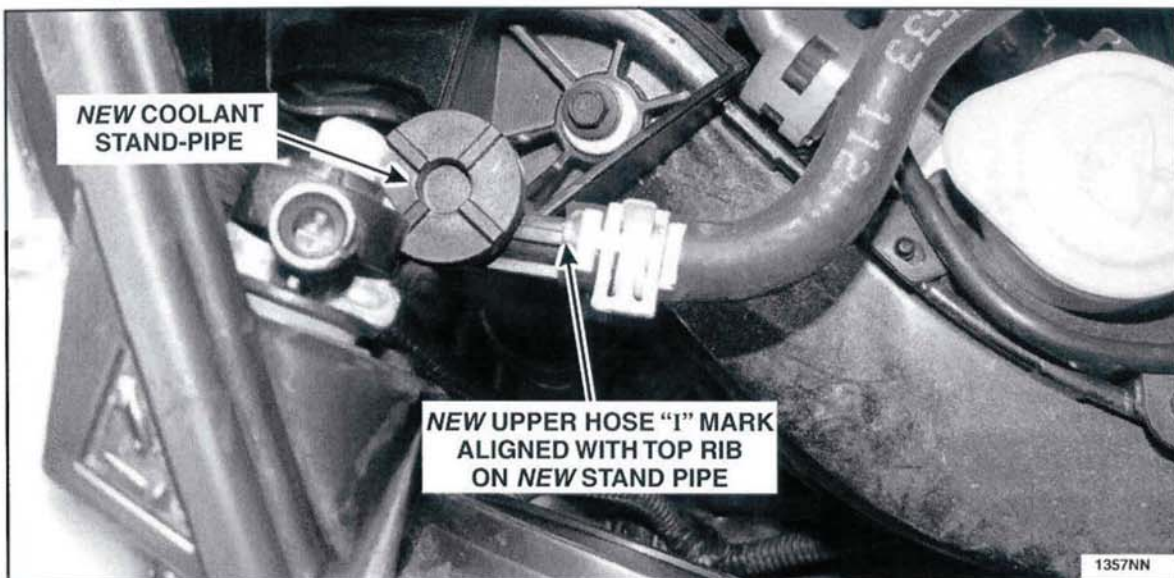

FIGURE J7
9. Install the *new* clamp. Align and connect the *new* upper hose to the top port on the *new* coolant stand-pipe and to the RH port on the degas bottle. See Figures J7 and J8.
- Ensure the "I" mark on the *new* upper hose is in the 12 o'clock position, aligned with top rib of stand-pipe top port. See Figure J7.
- The *new* clamp when installed should also be aligned with the "I" mark in the 12 o'clock position. See Figure J7.